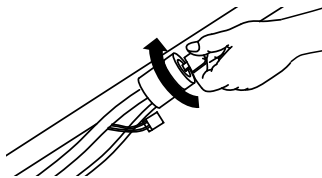
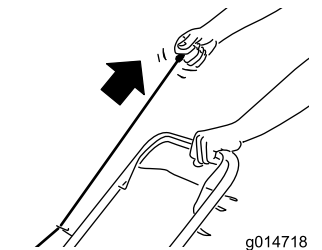

Figure 16
Figure 17
2. Insert the key into the electric starter (if equipped) and turn it; refer to Figure 16) or pull the recoil-start handle (Figure 17).